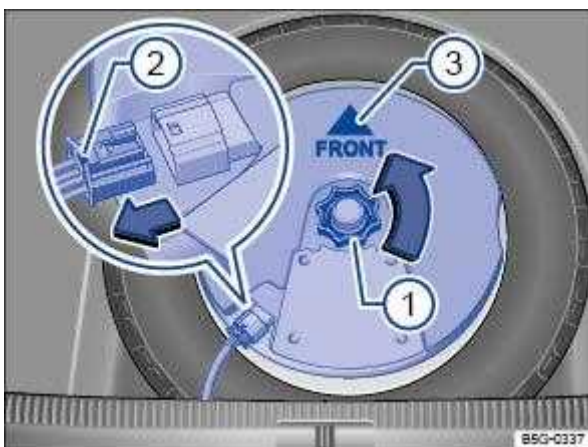

Fig. 143 In the luggage compartment: removing subwoofer (type 2).
Unscrew handwheel ⇒ Fig. 143① in direction of arrow.
To unlock the connector, press the catch on the end of the plug ⇒ Fig. 143② .
Place the subwoofer carefully in the rim base. The tip of the arrow symbol FRONT ⇒ Fig. 143 ③ on the subwoofer must face forwards.
Plug in connector ⇒ Fig. 143 ② until the catch audibly engages.
Screw the handwheel ⇒ Fig. 143 ① onto the threaded pin in the opposite direction to the arrow until the subwoofer is properly secured.